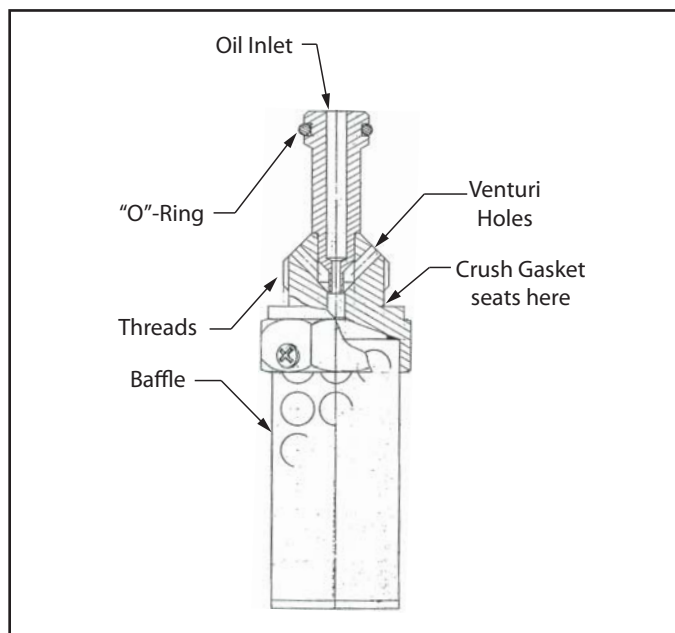

Figure 14 Mist Nozzle Assembly
1. Disconnect Air Inlet Tube (15) from mist head.
2. Remove Cover (2) from mist head and cover from electrical junction box (behind mist head).
5. Remove four mist head Screws (4) and carefully lift mist head assembly out of the reservoir. Take care to prevent damage to Oil Heater (27) as head assembly is removed. Discard mist head O-ring (14).
6. Remove Nozzle (13). Discard Copper Gasket (12) and O-ring (11).
7. Remove Inlet Screen (26).
8. Loosen Setscrew (5) and remove Oil Adjustment Screw (7).
9. Clean the Nozzle (13) (oil inlet bore at top of nozzle and angled venturi holes just above nozzle threads as shown in figure 14), the Inlet Screen (26), the Oil Adjustment Screw (7), and its seat in the Mist Head using a suitable solvent.
10. Re-install the Nozzle (13) with new O-ring (11) (lubricate with oil before assembly) and Copper Gasket (12). Take care to prevent damage to O-ring (11) as it is installed on the Nozzle (13) neck and as the Nozzle (13) is installed in the mist head.